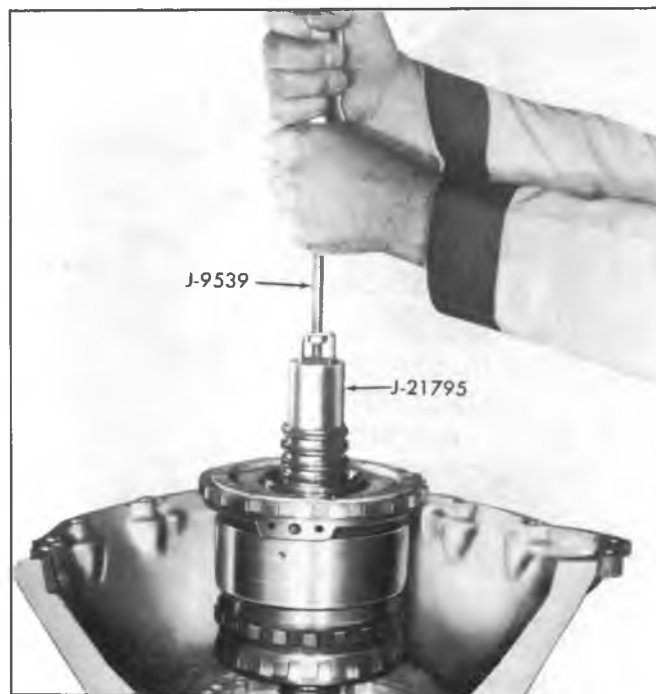

Fig. 36T--Removing Center Support and Gear Unit from Case
14. Remove entire gear unit assembly by lifting with gear assembly installing and removing Holding Tool J-21795 with J-9539 slide hammer (fig. 36T).